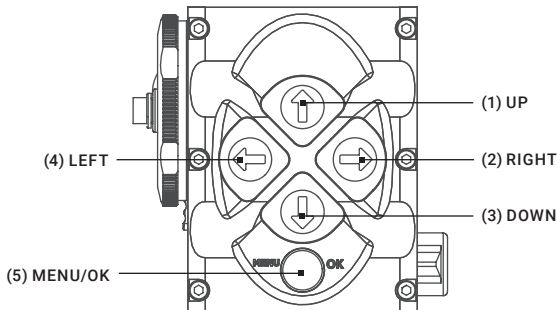
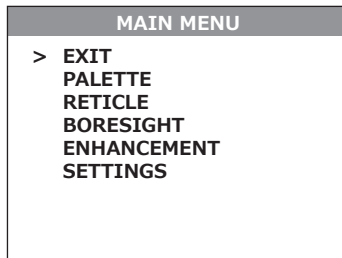

FIGURE 2-9. MAIN MENU NAVIGATION BUTTONS
FIGURE 2-10. MAIN MENU
To display the MAIN MENU, push and hold down the MENU button (5) on the control panel (Figure 2-9).
Once the MAIN MENU is displayed (Figure 2-10), use the UP and DOWN buttons (Figure 2-9) to navigate through the items on the menu.